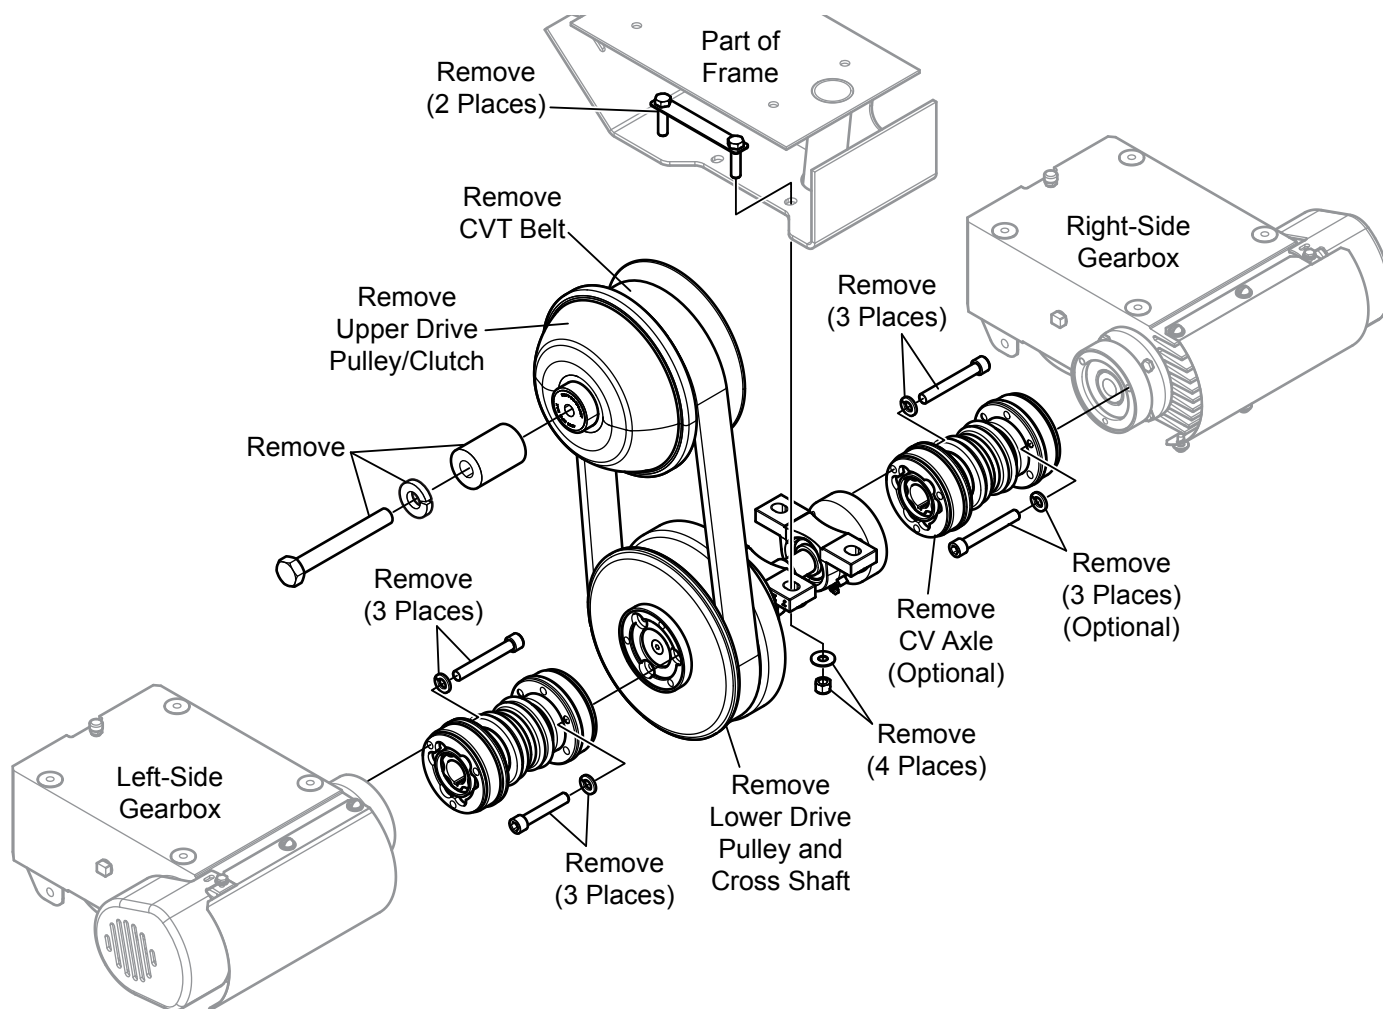

Figure 7. Remove Drive Assembly
Refer to Figure 7.
1. Remove and discard CVT belt. It will not be used in the reassembly. See Figure 7.
See Figure 7.